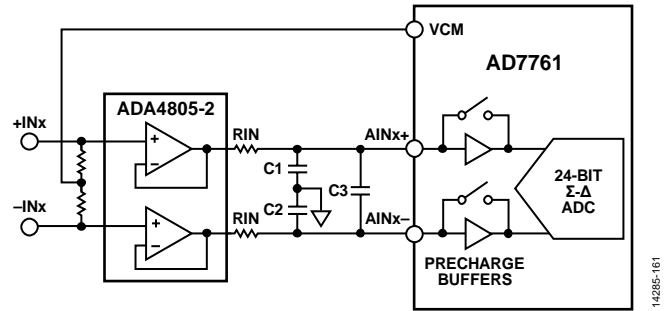

Figure 61. Typical Input Structure for an RC Network
There is a resistor/capacitor (RC) network between the amplifier output and the ADC input. Figure 61 shows a typical RC network used for the AD7761 for most amplifier pairings. The RC network performs a variety of tasks. C1 and C2 are charge reservoirs to the ADC, providing the ADC with fast charge current to the sampling capacitors. Capacitor C3 removes common-mode errors between the AINx+ and AINx- inputs. These capacitors, in combination with RIN, form a low-pass filter to filter out glitches related to the input switching. The input resistance also stabilizes the amplifier when driving large capacitor loads and prevents the amplifier from oscillating.